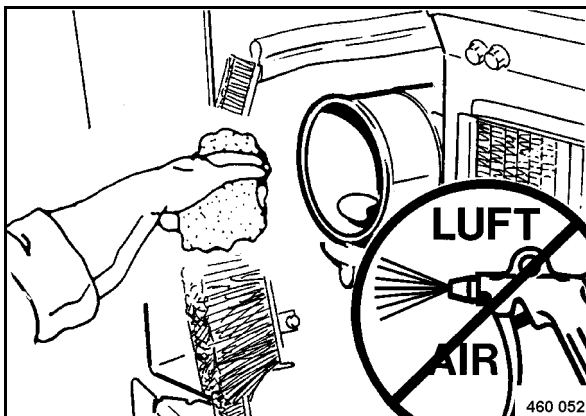

Fig. 135
- Clean out the air filter housing with a cloth (Fig. 135).